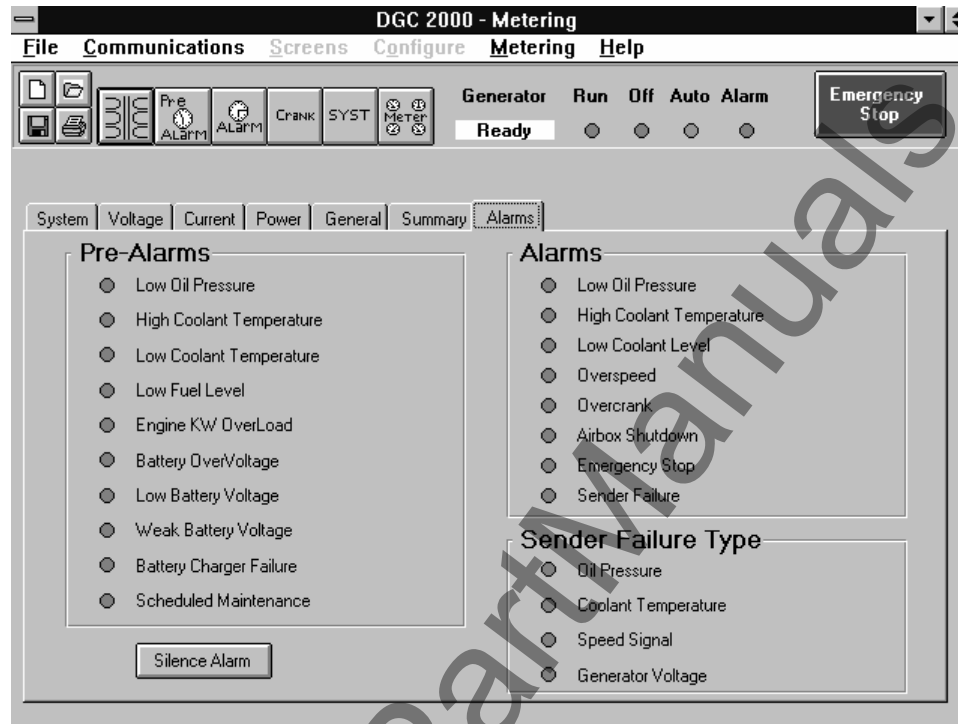

Figure 7-19. Metering - Alarms Screen
**Alarms.** The pre-alarms and alarms are all shown on one screen (refer to Figure 7-19). When a pre-alarm becomes active the LED next to the name of the pre-alarm will be green. A description of the alarm will be shown on top of the screen and the computer speaker will begin to beep. The label on top of the screen will contain the same alarm until it goes away and then it will show the next pre-alarm going down the list that is active. When an alarm becomes active the LED next to the name of the alarm will be red. The screen will jump to the alarm tab and the computer speaker will begin to beep. If the alarm type is a Sender Failure the type of sender that failed will be indicated in the Sender Failure type area.